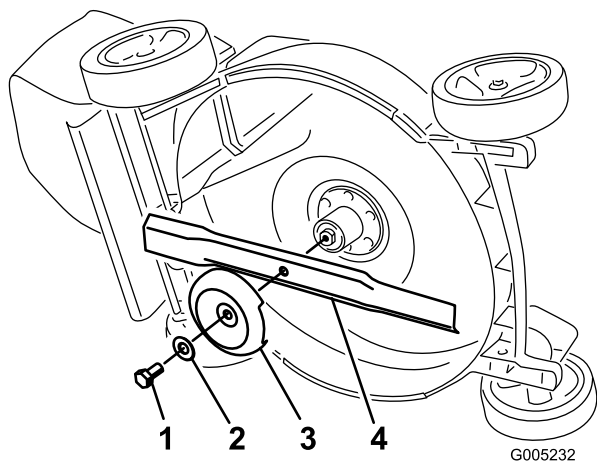

Figure 27
4. Tip the machine onto its **right** side (Figure 27).
Grasp the end of the blade using a rag or a thickly padded glove. Remove the blade bolt, washer, anti-scalp cup, and blade (Figure 27).